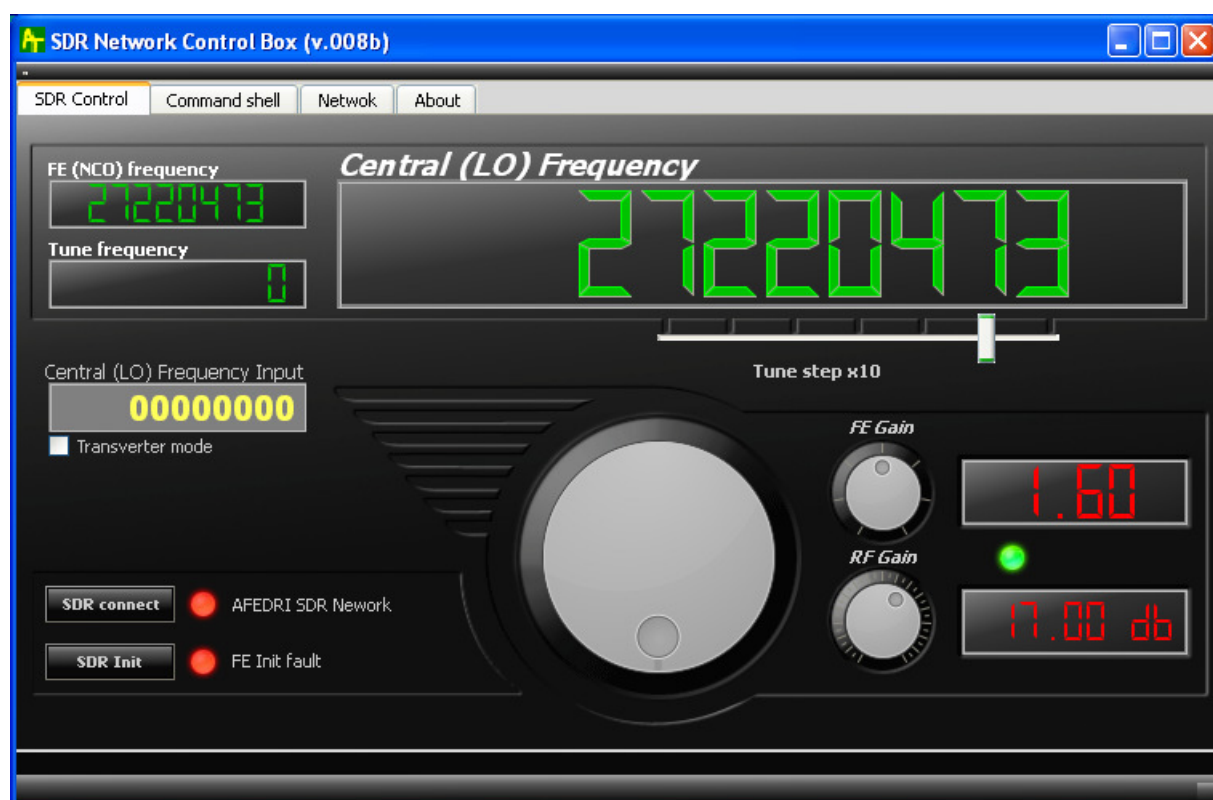

Figure 2 The “SDR Network Control Box” screen when AFEDRI SDR-NET disconnected from PC
3.1.7. The virtual LED indicator (green/red) and text message (on right side of button «SDR connect») – shows initialization status of SDR. If SDR was found and firmware started successfully, then indication color is - green and text message is a name of USB device, that was found (for example – “AFEDRI-SDR Audio”). If the SDR is not connected to the PC or there is some fault, the indicator color will be red and error message will be shown (see. Figure 2.).
3.1.9. The virtual LED indicator (green/red) and text message (on right side of button «SDR Init») – shows initialization status of Front End chip inside of SDR. If Front End was initialized successfully, the indicator color is green and there is a text message on right side of the indicator. If a fault occurs in the time of Front End initialization, the indicator color is red, and error message is shown (см. Figure 2.).